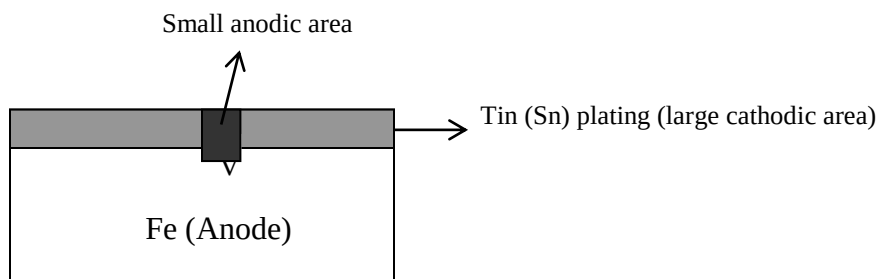
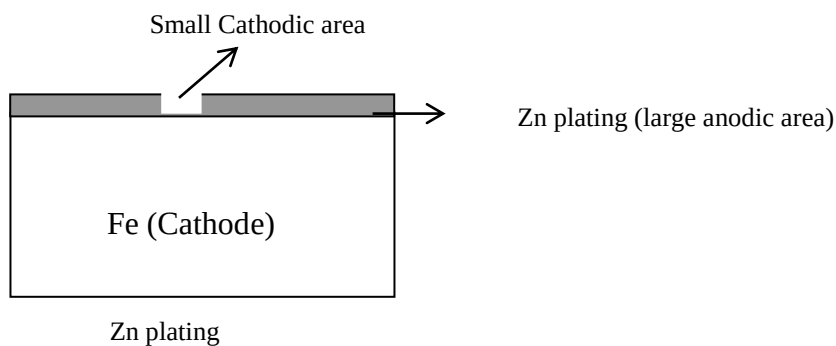

Fig. 2.5: Rapid corrosion, if anodic area is less compare to cathodic area
Fig. 2.6: Slow corrosion, if anodic area is more compare to cathodic area
(3) Relative area of anode and cathode: The rate of corrosion is greatly influenced by the relative size of anodic and cathodic areas. Smaller the anodic area and larger the cathodic area faster is the rate of corrosion (Fig. 2.5). Because the demand for electrons by a large cathodic area can be met by smaller anodic areas only by undergoing corrosion more briskly at smaller anodic area. Smaller the cathodic area and larger the anodic area the rate of corrosion is slow (Fig. 2.6).